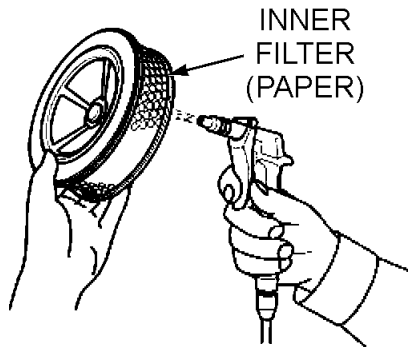

Figure 30. Cleaning Inner Paper Filter
6. To clean the paper air filter (Figure 30), tap the filter element several times on a hard surface to remove dirt, or blow compressed air [not to exceed 30 psi (207 kPa, 2.1 kgf/cm²)] through the filter element from the air cleaner case side.